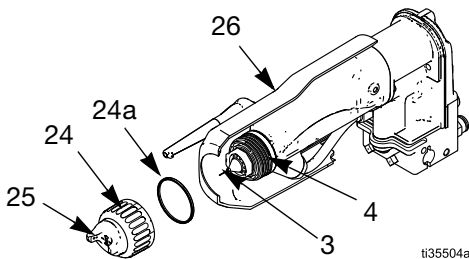

FIG. 11. Clean Air Cap and Fluid Nozzle
1. Turn off turbine air (TA).
- b. Remove the air cap assembly (24, 25) and shroud (26). See FIGURE 11.
- c. Wipe the fluid nozzle (4) of the gun clean with a cloth dampened in solvent. Avoid getting any solvent into the air passages. Whenever possible, point the gun down when cleaning it.
- d. If it appears that there is paint inside the fluid nozzle (4) air passages, remove the gun from the line for servicing. See **Air Cap and Nozzle Replacement**, page 32 to remove the fluid nozzle for cleaning or replacement.
- e. Clean the air cap (25) with a soft bristle brush and solvent, or submerge the air cap in suitable solvent and wipe it clean. Do not use metal tools.
- f. Open and slide the shroud (26) onto the gun.
- g. Carefully install the air cap (25). Be sure to insert the electrode (3) through the center hole of the air cap. Rotate the air cap to the desired position.
- h. Make sure the u-cup (24a) is in place on the retaining ring (24). The lips must face forward. Tighten the retaining ring until the air cap is held firmly in place; you should not be able to rotate the air cap horns by hand.